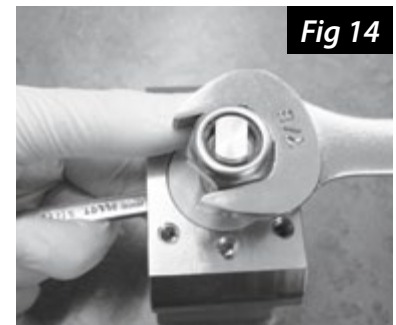

Fig 14
9. Remove the stem nut with a 7/8" wrench. Hold the valve stem in place by grasping the base of the stem on the inside of the valve body with a 5/16" or 8mm open-end wrench or an adjustable wrench (Fig 14).